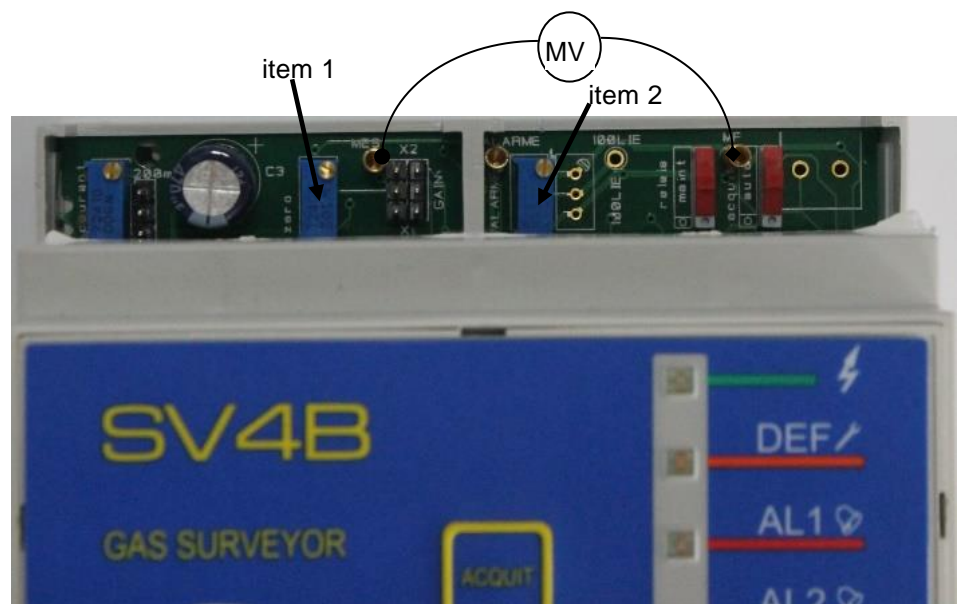

Figure 10
- Adjust the ZERO (0 mV) with the potentiometer, item 1. Figure 10.
The fuse (Figure 10, item 1) must be replaced by qualified personnel only.